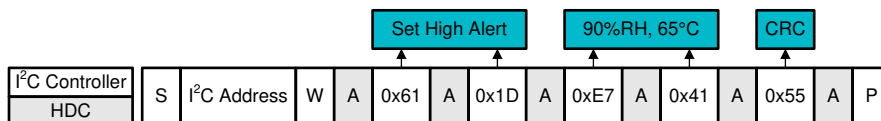

Figure 7-18. I²C Command Sequence: Example Programming of Set High Alert to 90% RH, 65°C
- a. **Figure 7-18** illustrates the appropriate command to send to the HDC302x.